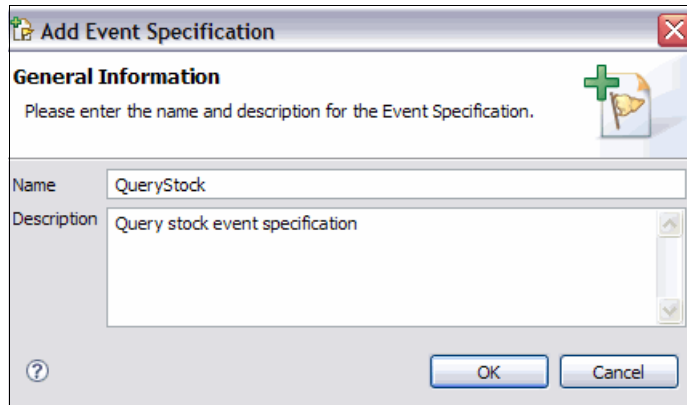

Figure 5-7 *QueryStock event specification*
6. Enter the name of the Event Specification, QueryStock, a description, and click **OK** as shown in Figure 5-7 on page 97.